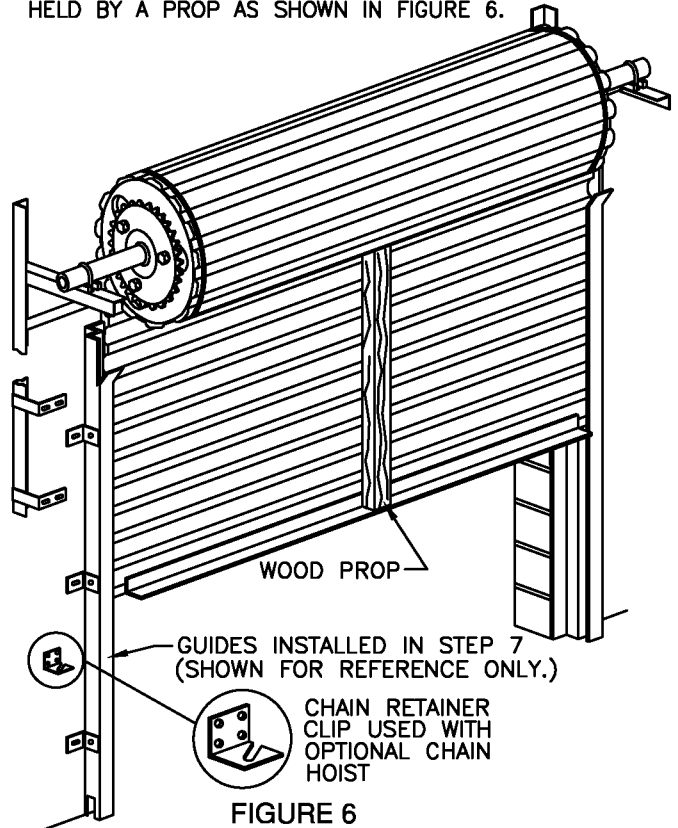

FIGURE 6
- 6A CUT THE BANDS THAT HOLD CURTAIN, THEN LOWER THE DOOR NO FURTHER THAN HALF WAY (SEE FIGURE 6). ON THE BOTTOM OF THE DOOR (DO NOT LET GO OF DOOR).
- 6B THE DOOR MAY HAVE A STRONG TENDENCY TO RAISE AND CAUSE DAMAGE. THEREFORE, IT MUST BE SECURELY HELD FROM TURNING UNTIL GUIDES AND HEAD STOPS ARE INSTALLED. THE DOOR MAY BE HELD BY A PROP AS SHOWN IN FIGURE 6.